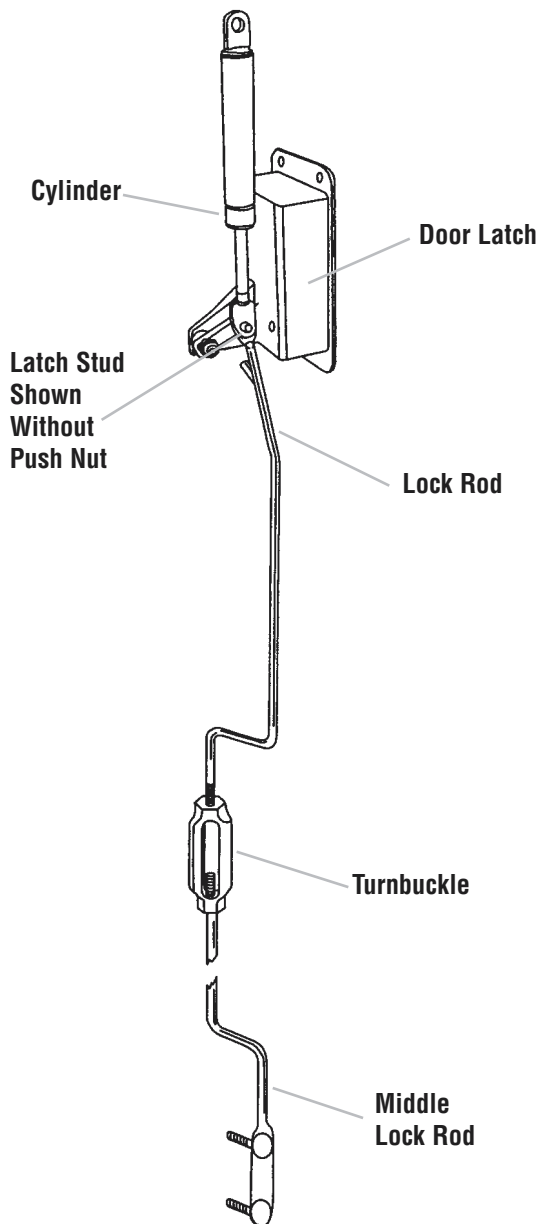

Figure 22
- Screw the turnbuckle onto the middle lock rod (note left-hand threads), and then screw the top lock rod into the turnbuckle (Figure 22).
## STEP 18 - LOCK ASSEMBLY (Figure 22)